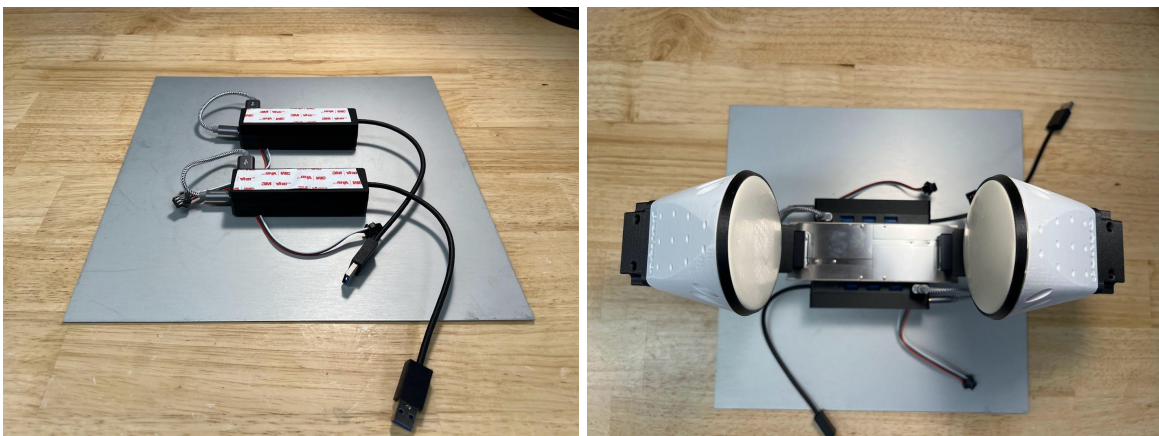

Figure 101: Attaching the *Pressure Sensing System* and USB hub Units to the Schunk WSG-050-110 using VHB double-sided tape
- b. Attach the *Pressure Sensing System* and USB hub units to the WSG-050-110, one on either side, with the strips of VHB tape. Orient the units such that they are mirrored when viewing the gripper from the top (Fig. 101).